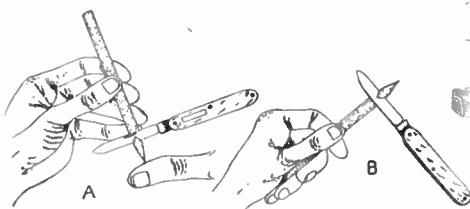

Fig. 1—Sharpening a pencil—wrong and right
Care should also be taken when using your pocket knife, since it is quite an easy matter to cut your fingers. As an example, in sharpening a pencil, the following hint will prevent cutting your thumb. In Fig. 1 (A) is shown a common method of sharpening a pencil which can easily result in a cut thumb. The pencil point rests on the thumb as indicated, and the knife is shown cutting the wood towards the thumb. Any slip of the knife if a pencil is sharpened in this manner will result in a cut.
cated in view Fig. 1 (B) with the knife blade working in a direction away from your thumb or fingers. You will by this method also get a much better point on your pencil.